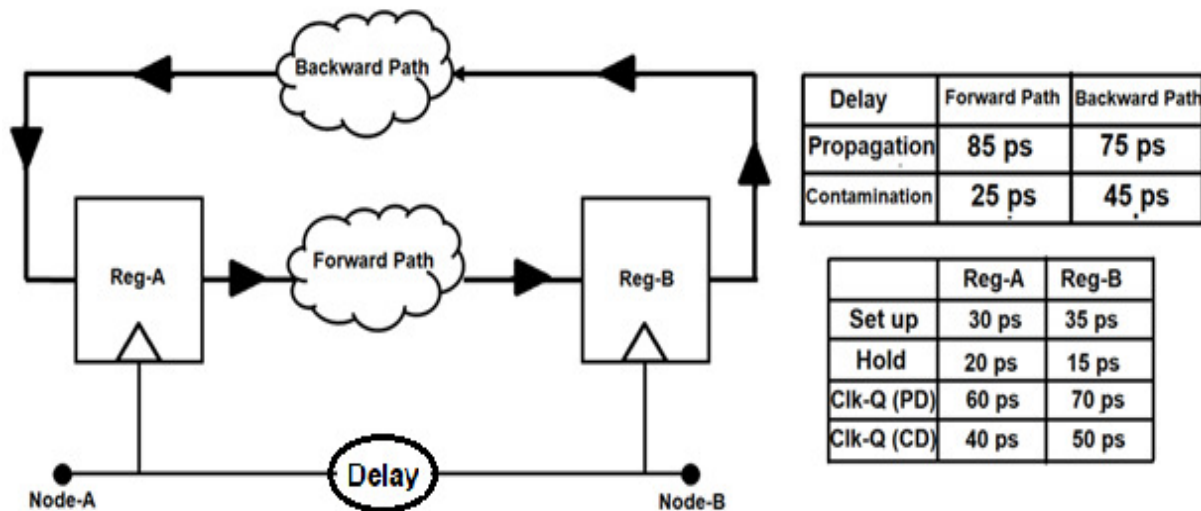

Fig. 3
Q.3. The digital system shown in **Fig. 3** below has two sequential elements (Edge triggered) *Reg-A* and *Reg-B* and two combinational logic blocks *forward path* and *backward path*. The timing parameters are mentioned in the tables adjacent to the figure. CLOCK signal can be launched at either of the ends *Node-A* or *Node-B* and *Delay* indicates the interconnect delay.